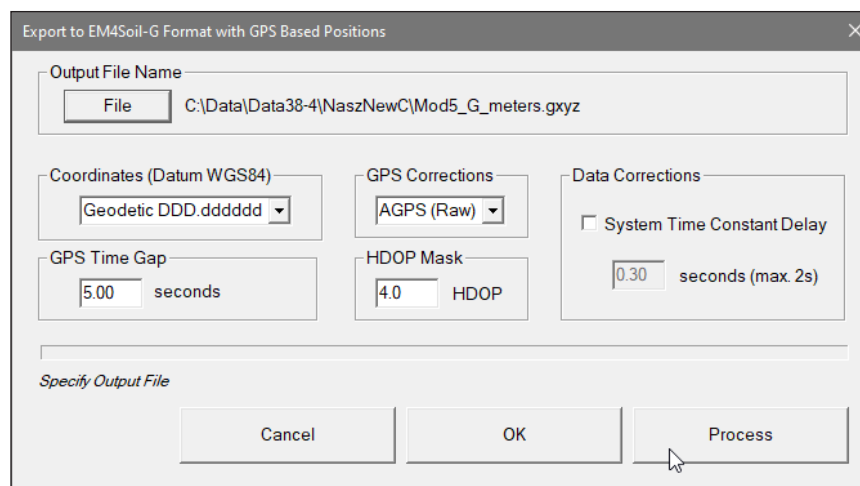

Figure 7.18 Export to EM4Soil-G Format with GPS Based Positions dialog after the export file name is specified
- Specify or select a file name and click **Save**. The selected file name appears in the dialog, activating the **Proceed** button (Figure 7.18).